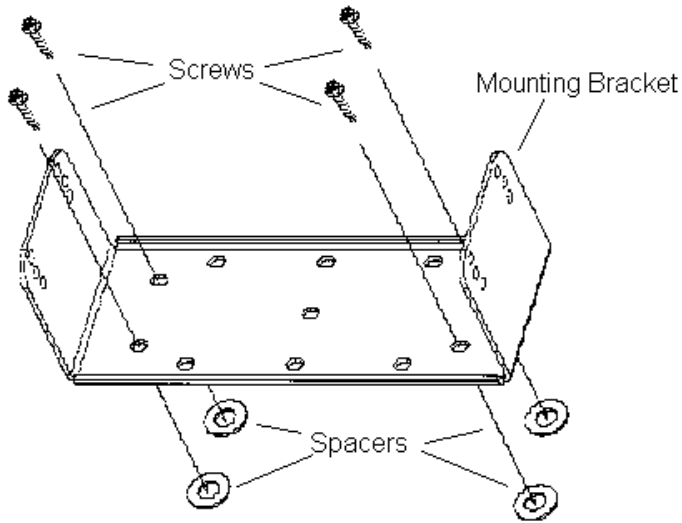

Figure 8 –Mounting Bracket Installation
2. Mount the bracket using the four 3/4” Phillips sheet metal screws and spacers provided in the mounting bracket hardware kit. (Refer to Figure 8.)